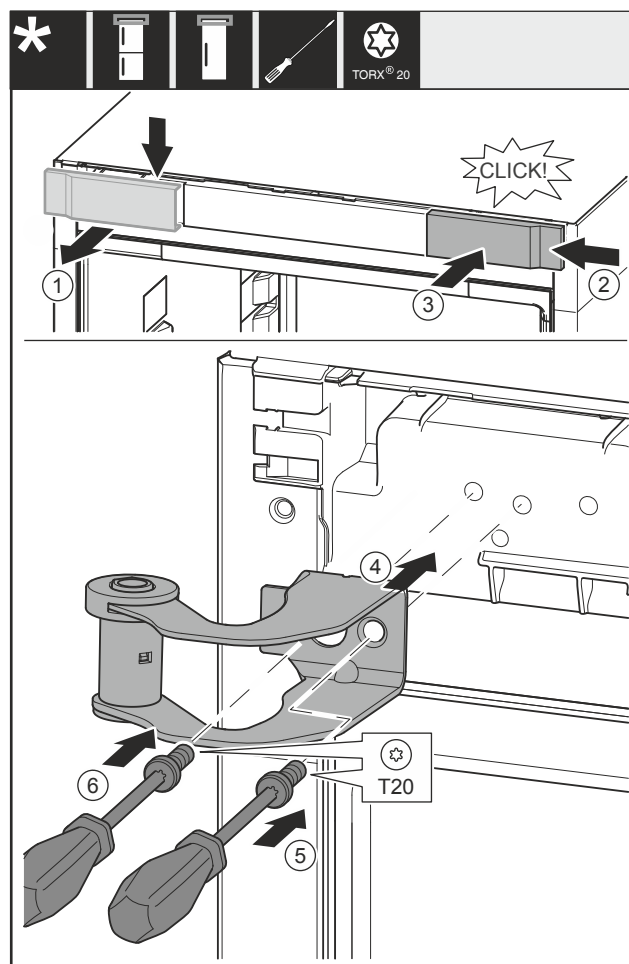

Fig. 22
- ▶ Remove the cover Fig. 22 (1) from above towards the front.
- ▶ Turn the cover Fig. 22 (2) by 180° and attach to the other side from the right.
- ▶ Engage the cover Fig. 22 (3).
- ▶ Place the top swap bearing block Fig. 22 (4).
- ▶ Screw the screw Fig. 22 (5) tight.
- ▶ Screw the screw Fig. 22 (6) tight.